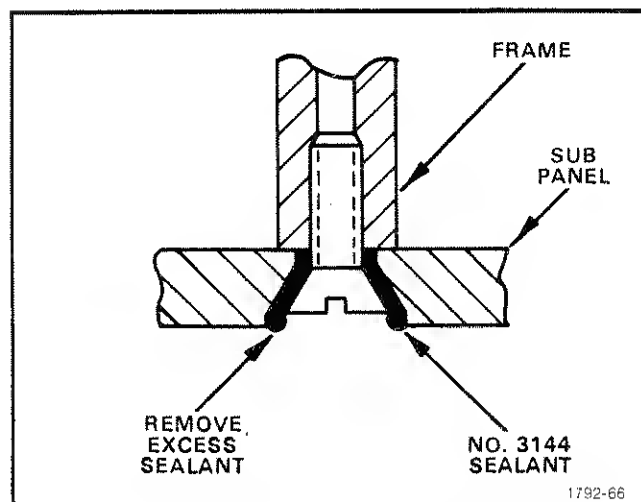

Fig. 5-12. Detail of Subpanel screwhole sealing.
12. Attach Subpanel to the three Frame Sections (see Fig. 5-12)
1. Fill the countersunk screw holes on the Subpanel with No. 3144 sealant. See Fig. 5-12.